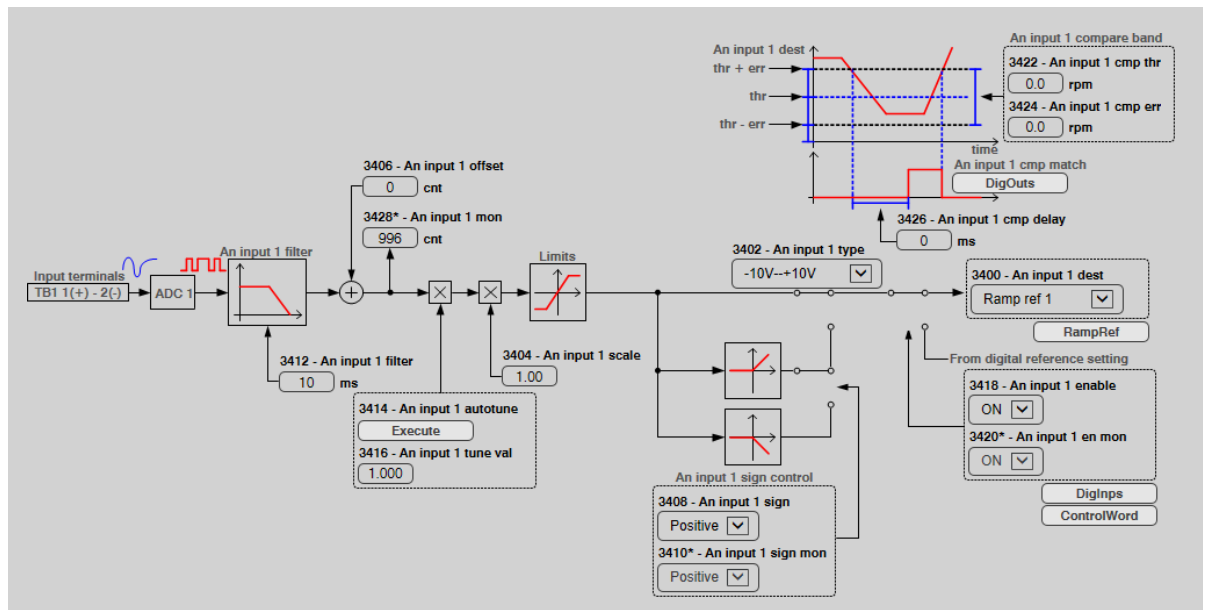

Figure 6-60: General diagram of analog input 1 management (Analog Input 1 diagram)
The digital output **An inp 1 cmp match** switches from 0 to 1 with a 1-second delay after **Ramp ref 1 mon** reaches **600 rpm**, and returns to 0 as soon as **Ramp ref 1 mon** exceeds **800 rpm** (see Figure 6-60).